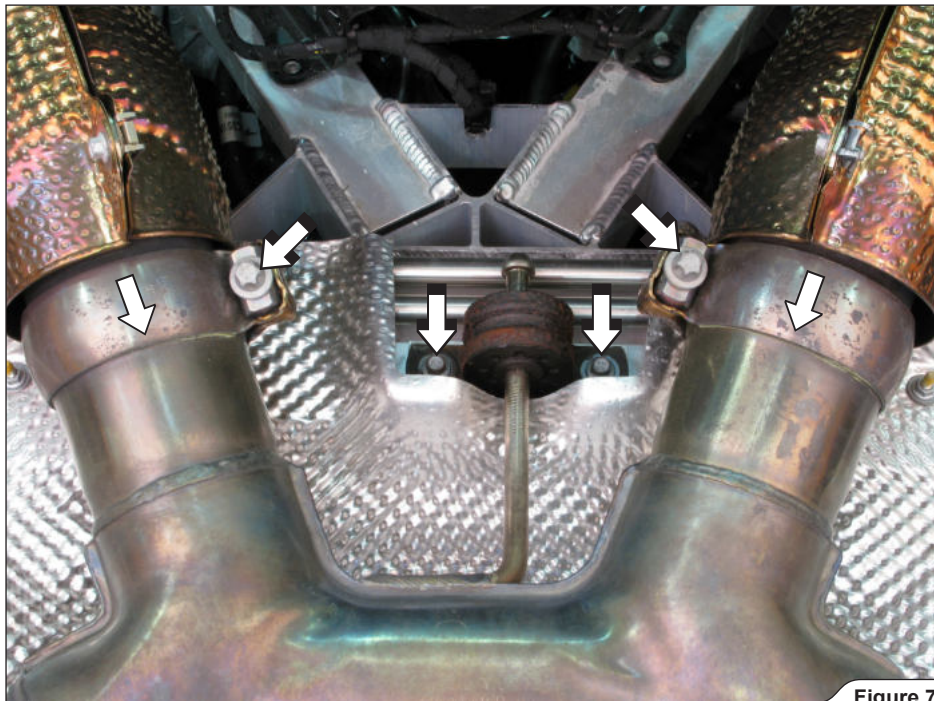

Figure 7
6. Unscrew the muffler's front rubber bracket, loosen the spherical clamps and slide them off the joints (**Figure 7**).